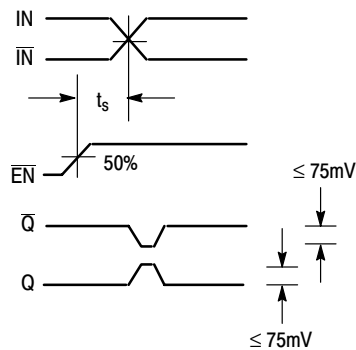

Figure 3. Setup Time
18. The setup time is the minimum time that \overline{EN} must be asserted prior to the next transition of IN/ \overline{IN} to prevent an output response greater than $\pm 75\text{ mV}$ to that IN/ \overline{IN} transition (see Figure 3).